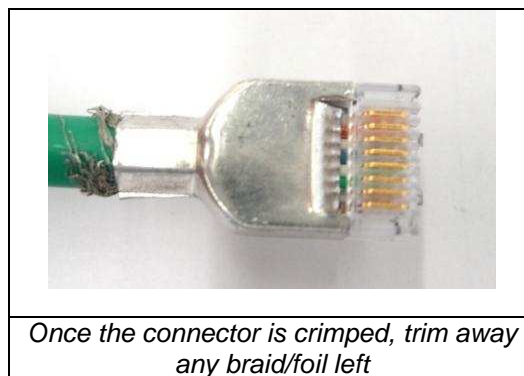

Figure 14
- Replaced and updated Figure 14.
4. Trim away any braid/foil and drain wire left extending beyond the end of the plug shield. See Figure 14.